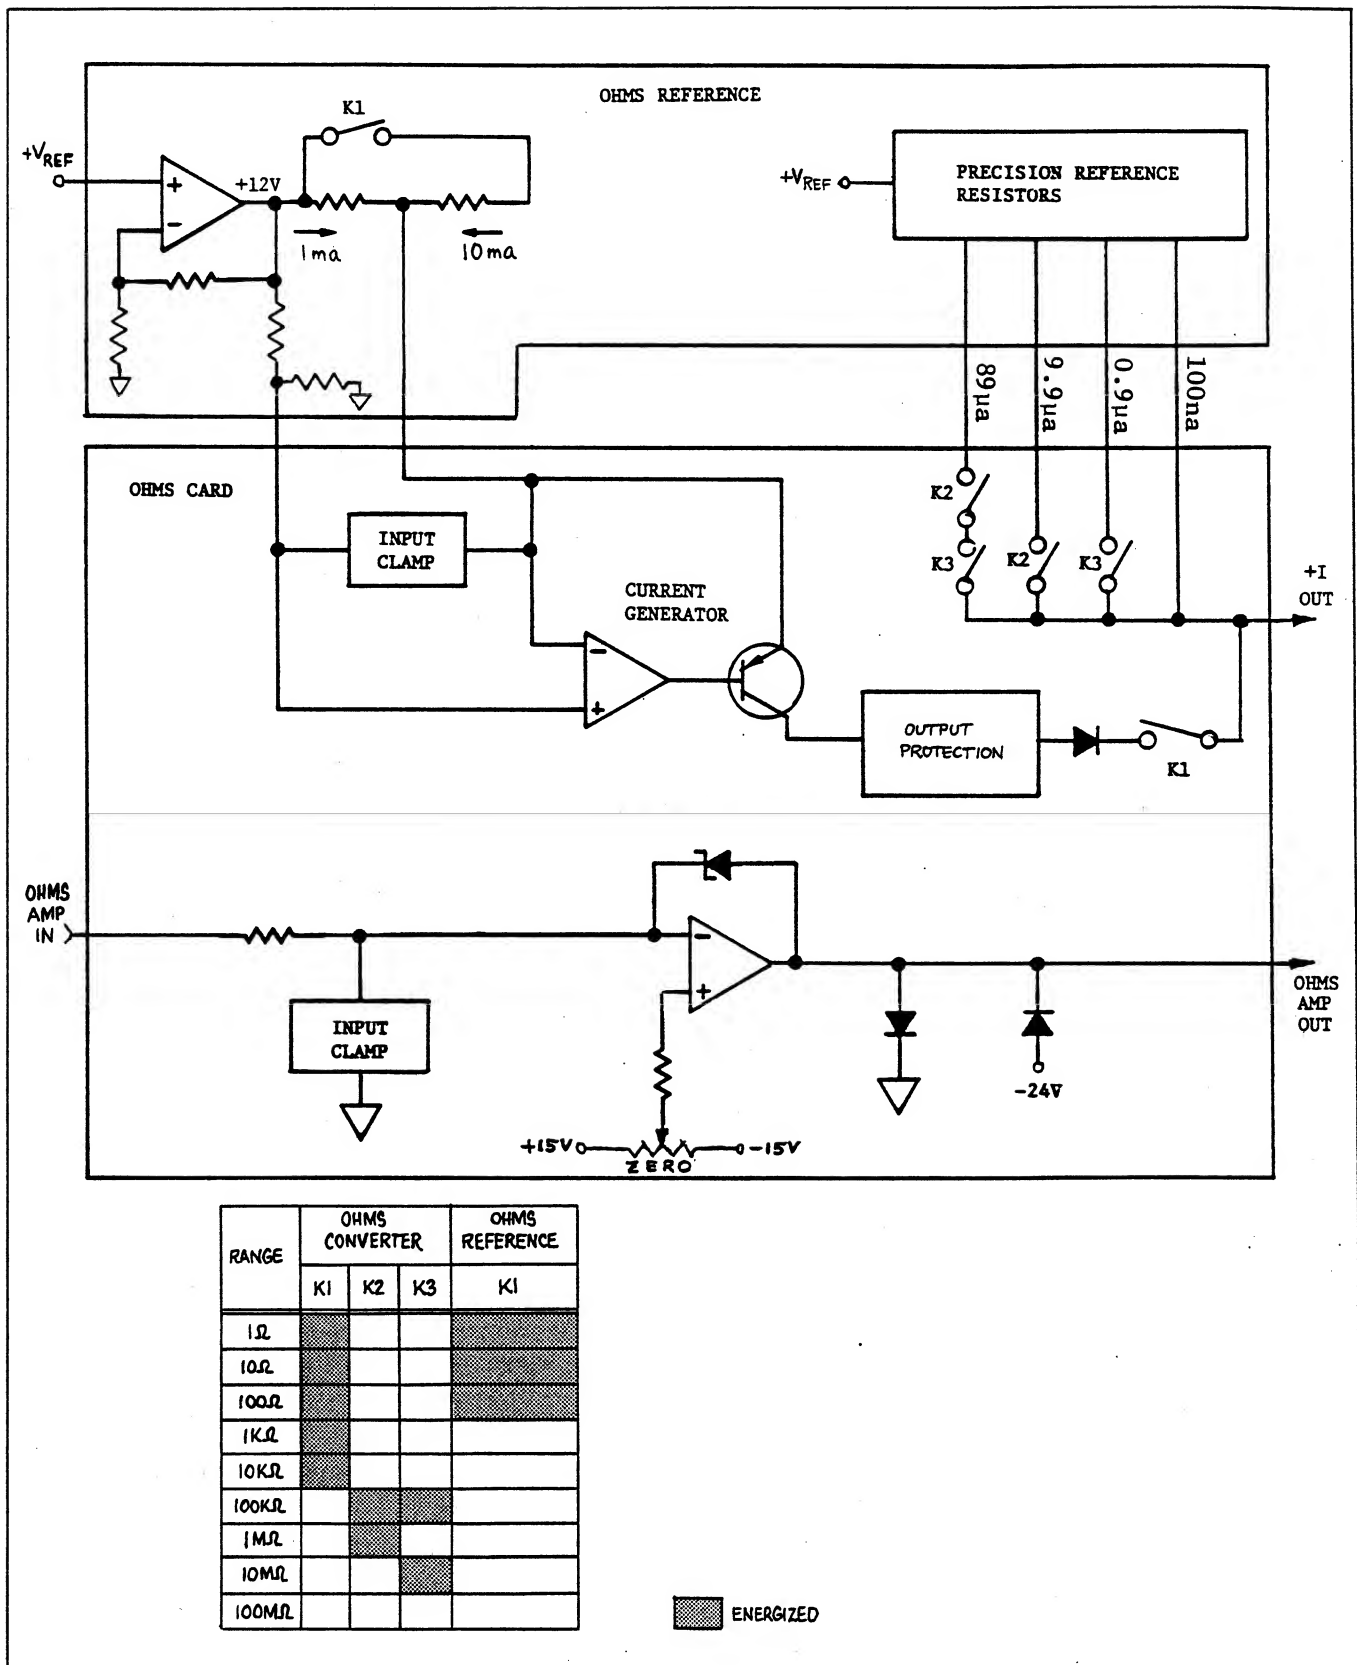

Figure 5.23 - Ohms Converter
5.3.5.10.1 The Ohms Converter (Figure 5.23) is comprised of two circuit boards: Ohms Reference and Ohms Card.
current source becomes a 10 ma current source. The table in Figure 5.23 details the relay closures for each range.
5.3.5.10.3 *Ohms Card.* The Ohms Card routes the appropriate current to the resistance under test and amplifies the returned signal. The current generator (Q1 through Q7 and AR1) supplies the 1 ma or 10 ma output current through K1 on the Ohms Card. The 89.1 μ a, 9.9 μ a, 900 na and 100 na currents from the Ohms Reference are routed through K2 and K3 and added together to produce 100 na, 1 μ a, 10 μ a and 100 μ a currents. The table in Figure 5.23 details the relay closures for each range. The circuitry formed by Q8 through Q11 and Q15 through Q17 provides overvoltage protection for the current generator.